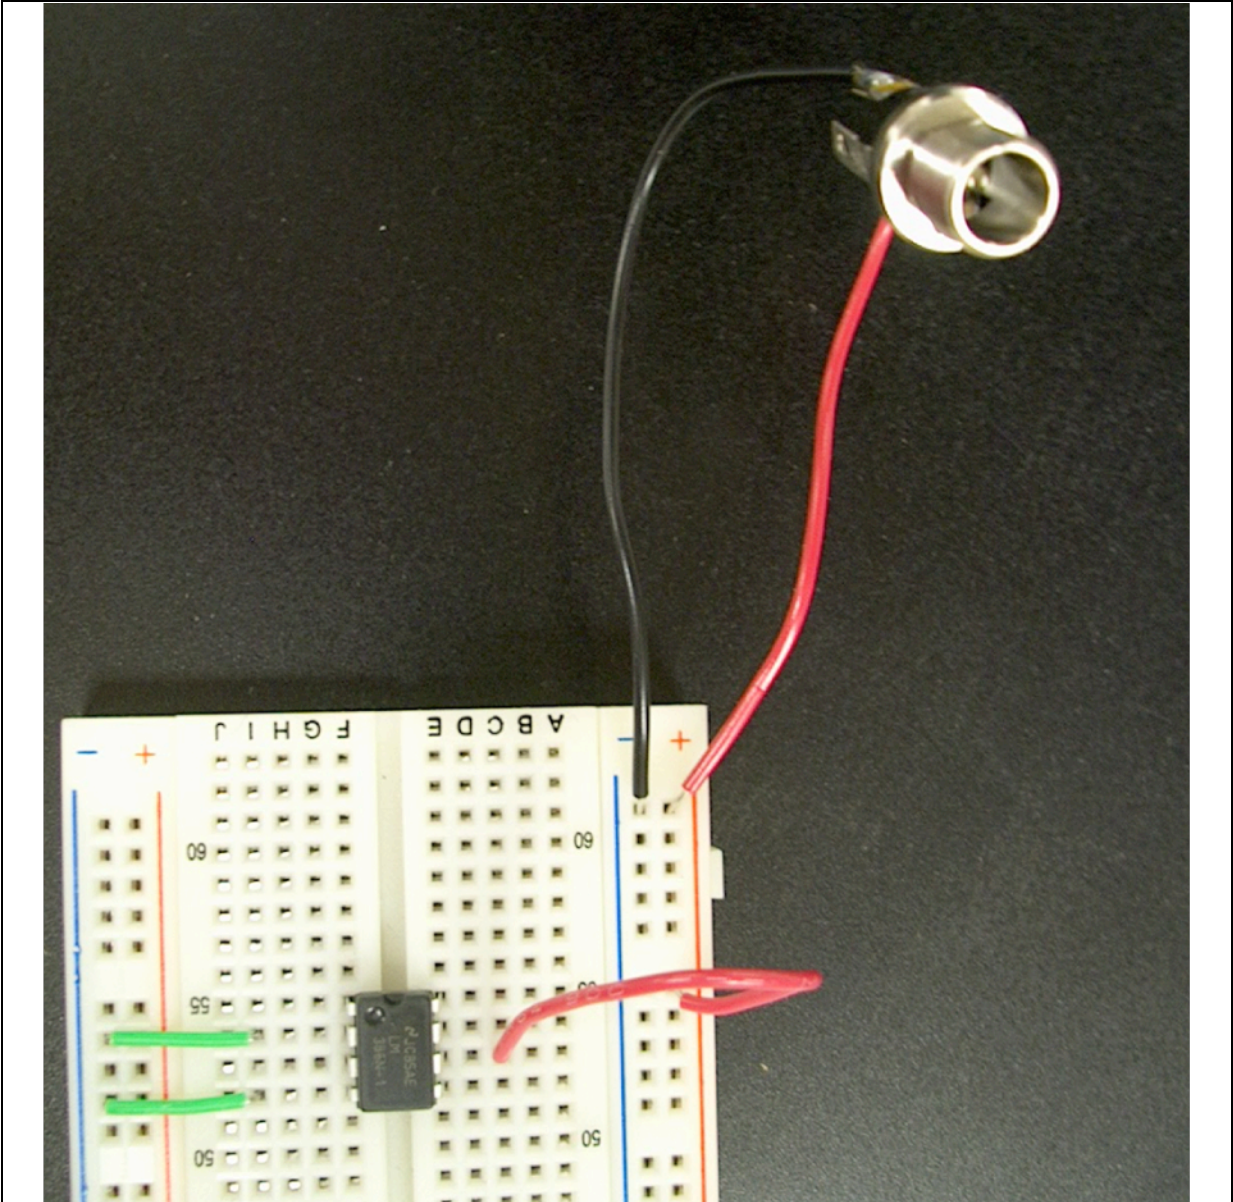
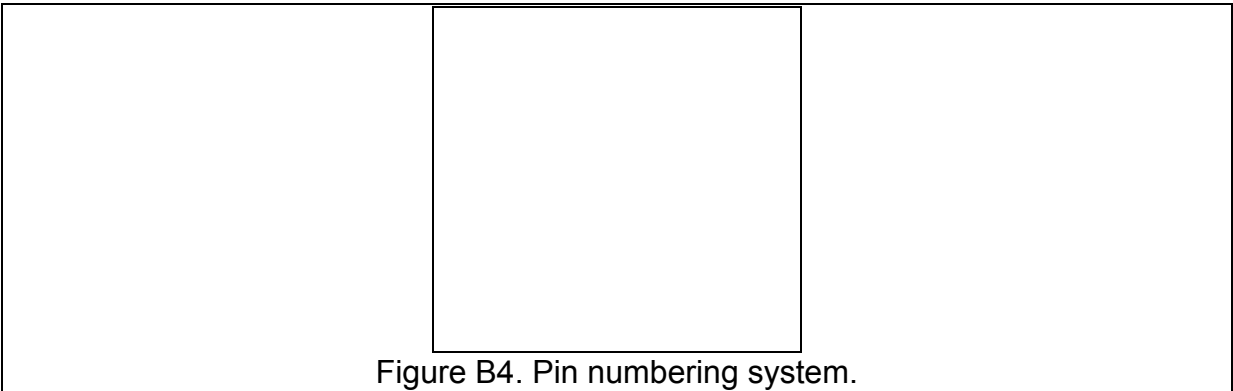

Figure B3. Step two of amplifier assembly
Figure B4. Pin numbering system.
2. Prepare the power jack by soldering two wires to it. Solder a black wire to the center lug, and a red wire to the lug on the right when viewing the jack from above (upper right hand corner of Figure B3).
3. Insert the amplifier integrated circuit (IC) into the breadboard such that it straddles the center trough, and each pin is in a separate row.
- a. The small circle embossed on the chip in the upper right-hand corner indicates the location of pin 1. Figure B4 shows the pin numbering system.